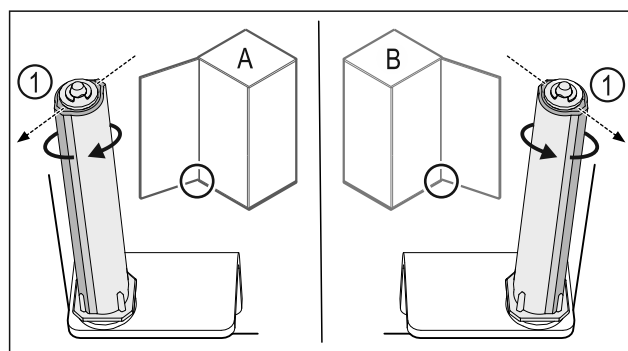

Fig. 32 Left-hinged (A) / Right-hinged (B)
- Turn the closing system against the resistance until the bar of the closing system Fig. 32 (1) points outwards.